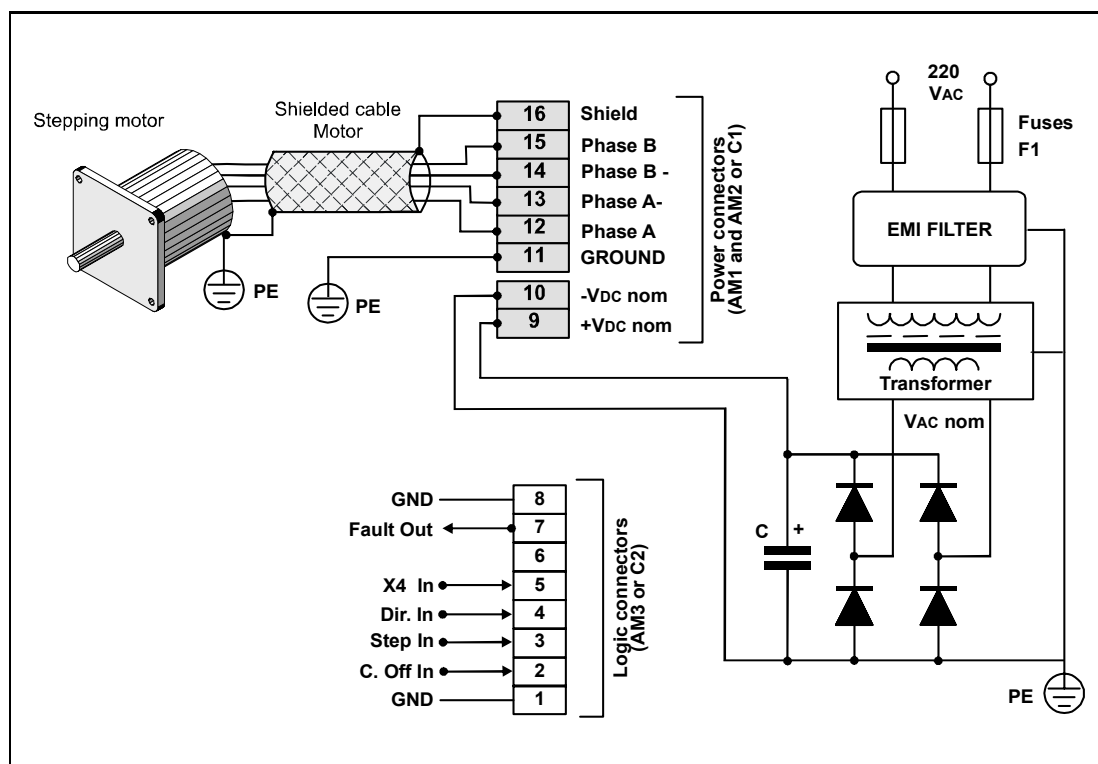
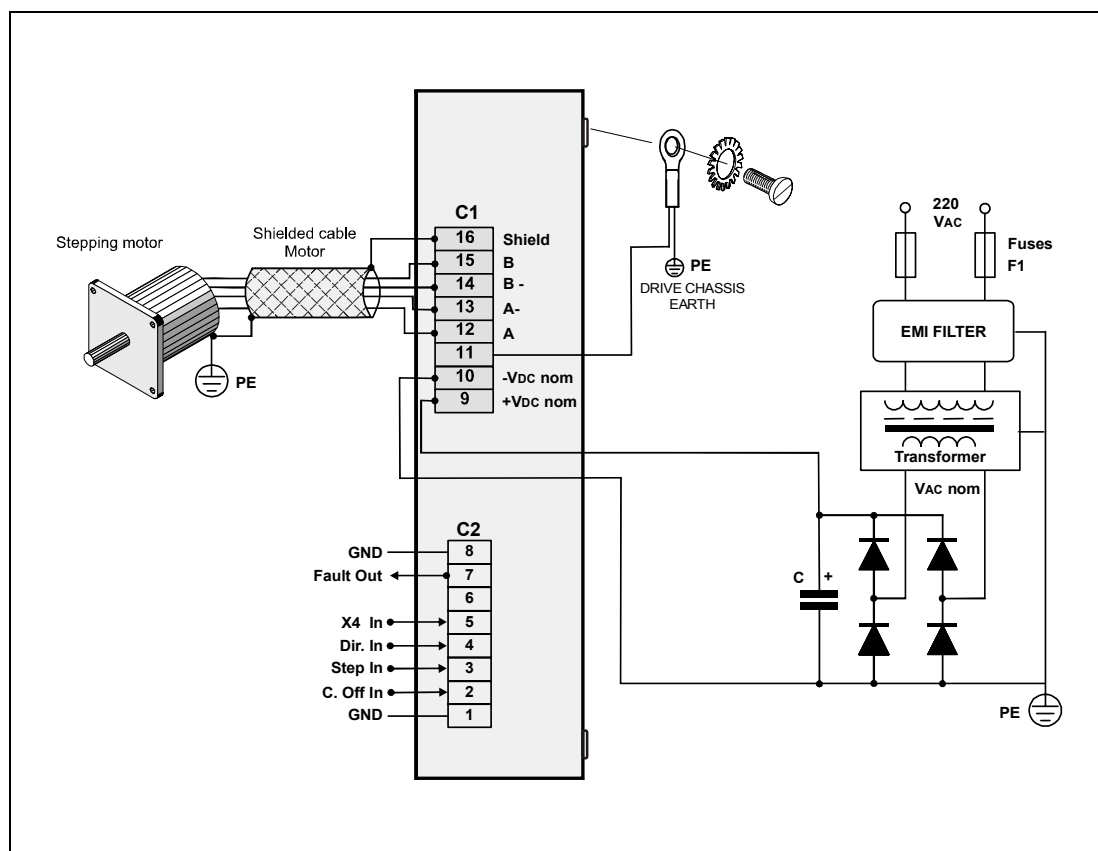

Fig. 2a - Drive external connection scheme for CSD 02, CSD 02.V, CSD 04, CSD 04.V.
Fig. 2b - Drive external connection scheme for CSD 92 and CSD 94.
- Connection made to Protective Earth terminal (PE), shown in Fig.2a e Fig. 2b, must be short and have the lowest possible inductance.
It is possible to use a switching power supply instead of a traditional power supply indicated in Fig. 2a and Fig. 2b, provided that you have a capacitor of at least 1000 μ F on the output line of power supply. This capacitor should be located at a distance not greater than 1 - 2 meter from Vdc input of the drive. The purposes of the capacitor are: